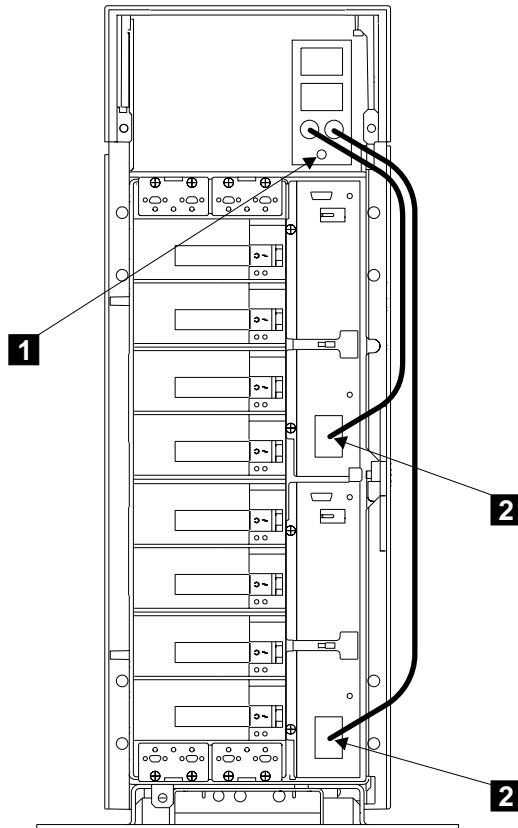

Figure 110. Removing the AC Connector Block
- Step 4. Refer to Figure 110.